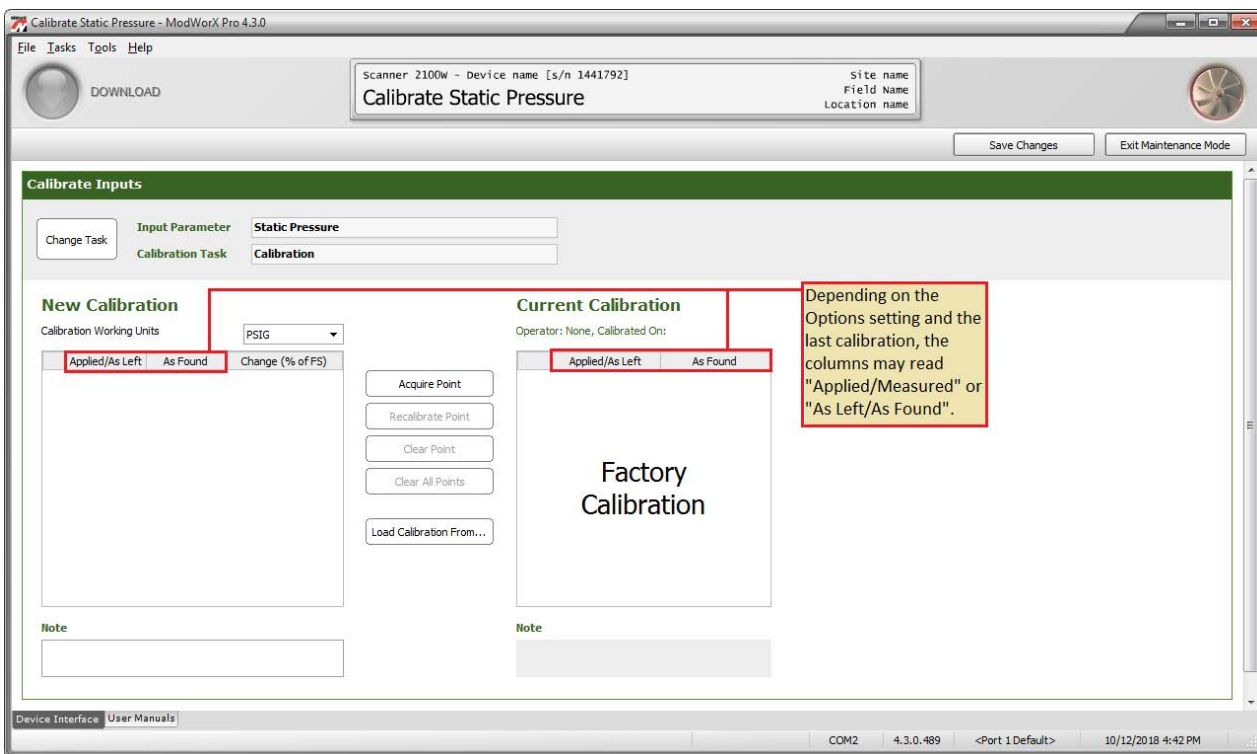

Figure 6.10
1. Observe the calibration settings at the bottom of the screen (Figure 6.10). To calibrate the sensor, click on the blue **Calibrate** hyperlink in the Sensor Calibration section and follow the screen prompts.
- a. Observe the verification settings at the bottom of the screen (Figure 6.10). To verify the sensor’s calibration, click on the blue **Verify** hyperlink and follow the screen prompts.